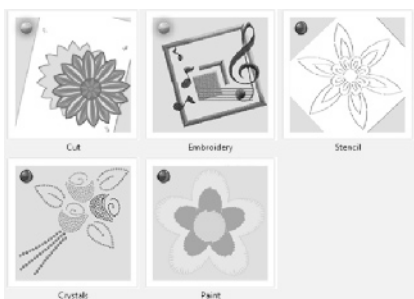

Fig. 21
2. Place a bullet in the *Cut* and *Embroidery* technique options. Remove the bullets from all other techniques (See Fig. 21). Click <Next>